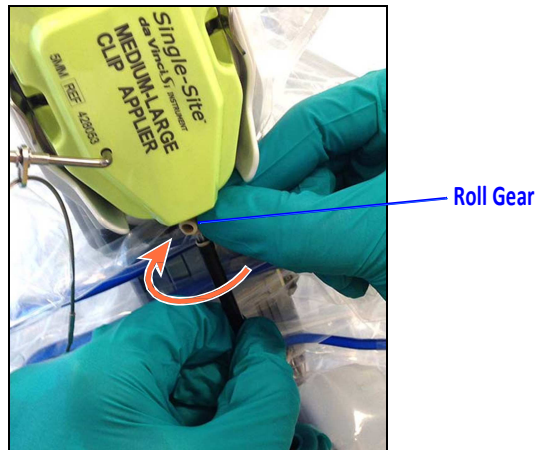

Figure 3. Twist the roll gear (tan color piece) while holding the shaft in place
- If the black outer shaft covering or other components inside the housing are blocking the shaft from being pulled back toward the housing, a slight twisting motion of the roll gear (the tan color piece) may help to move the obstruction (Figure 3).